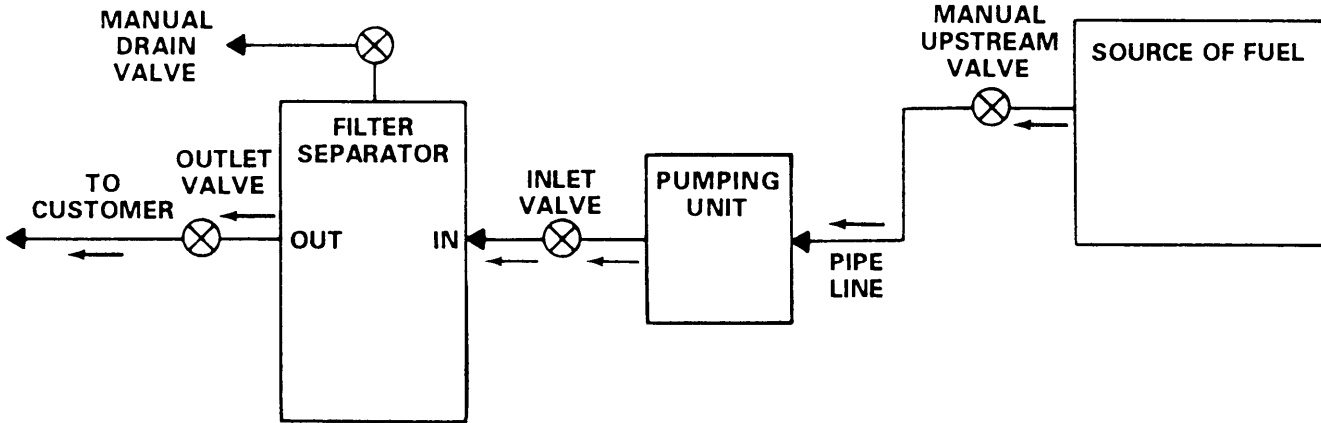

Figure 4-2. Typical Operational Layout.
- (3) Remove driver/puller rod (3) and driver/puller (4) from first grounding rod section.
- (4) Attach second section of grounding rod (5) to first section and attach driver/puller (4) to second section and drive into ground.
- (5) Repeat step (4) and drive third section of grounding (6) rod into ground until only 12 in. (30.5 cm) of rod is above ground.
- (6) Remove driver/puller (4) and driver/puller rod (3) from third section of grounding rod (6).
- (7) Place driver/puller (4) and driver/puller rod (3) in overpack box.
- (8) Slide grounding cable clamp (7) over grounding rod (6).
- (9) Attach grounding cable (8) to grounding rod (6) with grounding clamp (7) and secure.
- (10) Attach grounding cable (8) to ground clamp (9) and tighten screw (10).
- d. Connect outlet hose from fuel system to inlet connection (11) on the filter/separator. Connect dispensing hose to outlet connection (12) on the filter/separator.
- e. Refer to figure 4-2 for typical operational layout.